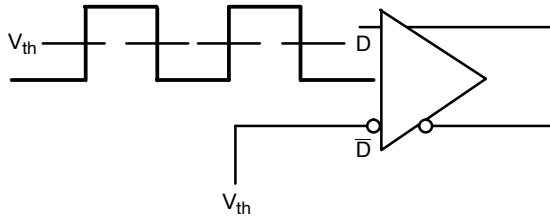

Figure 10. Differential Input Driven Single-Ended
**DIFFERENTIAL INPUT DRIVEN SINGLE-ENDED** (Figures 10, 12) (Note 15)
**DIFFERENTIAL INPUT DRIVEN SINGLE-ENDED** (Figures 10, 12) (Note 22)